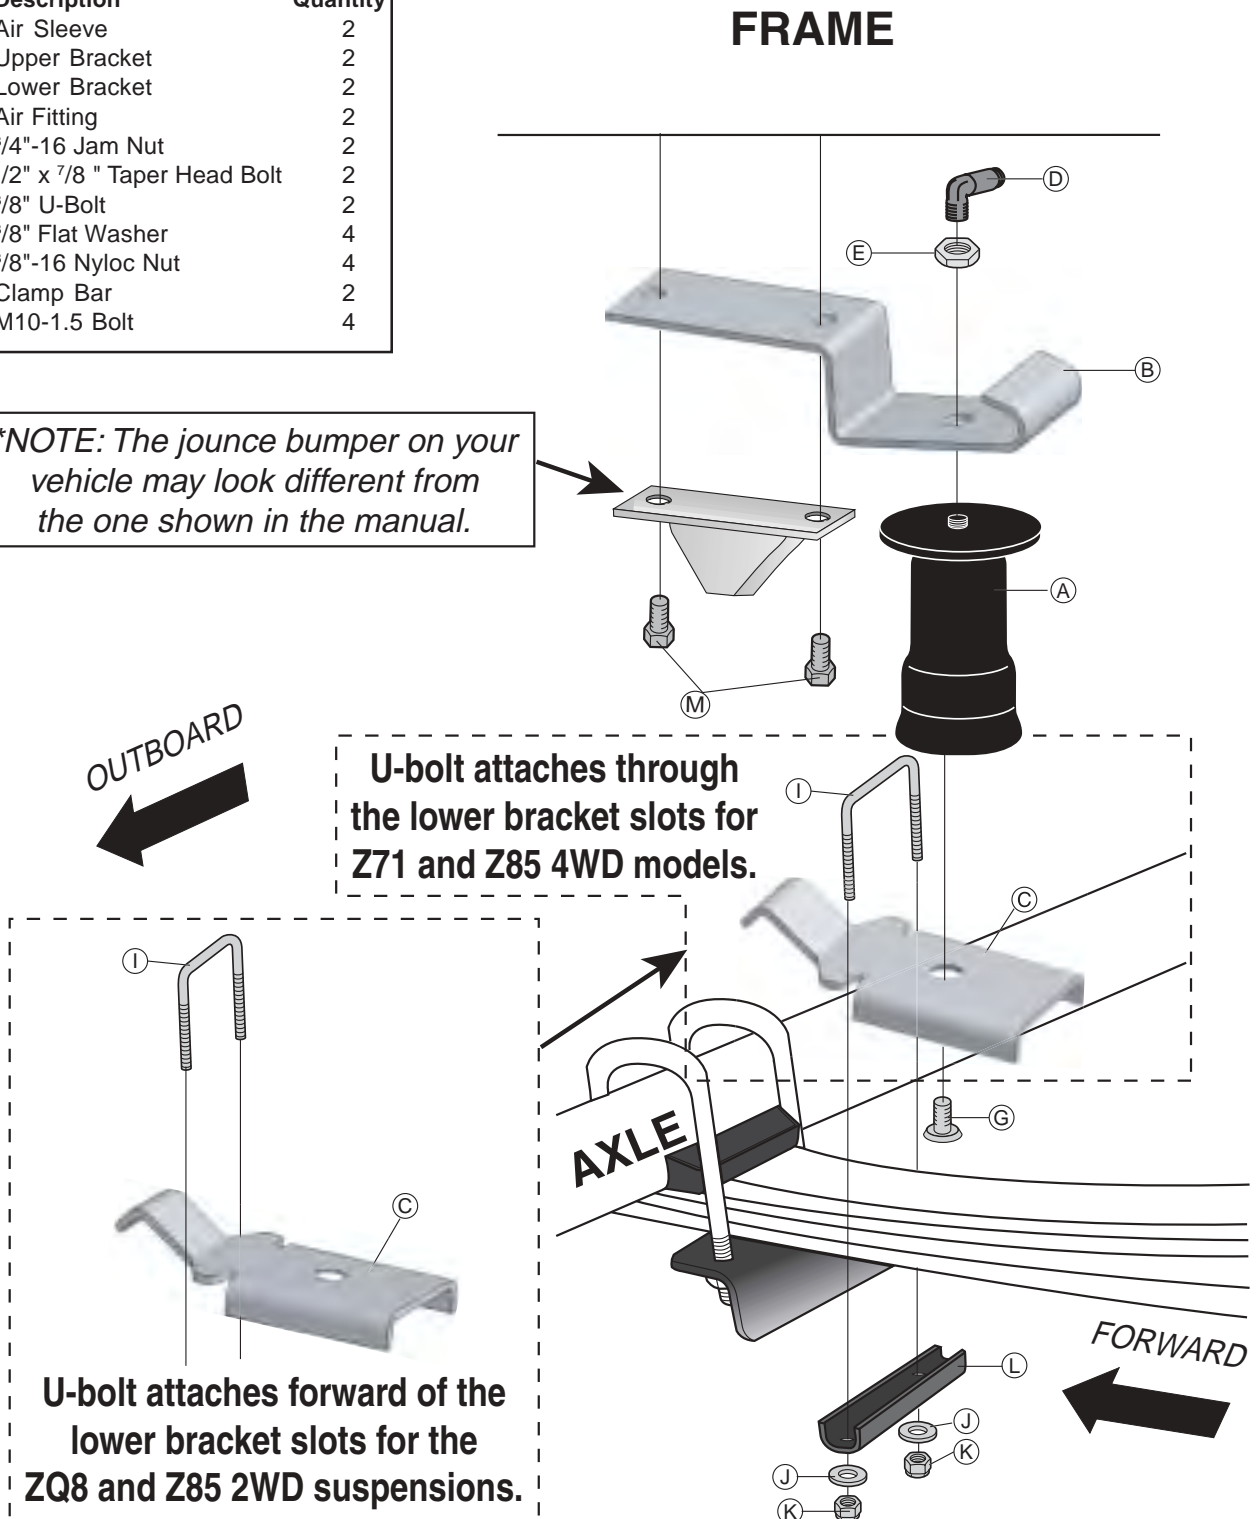

Figure 1
NOTE: Refer to Figure 1 for the instructions below.
2. Remove the jounce bumper and set it on the bracket. Attach the assembly to the frame using the supplied bolts. Adjust by pulling the slotted bracket towards you (Figure 1).
If the vehicle's headlights are shining into the trees or the vehicle is leaning to one side, then it is not level (fig. 1). Raise the air pressure to correct either of these problems and level the vehicle.